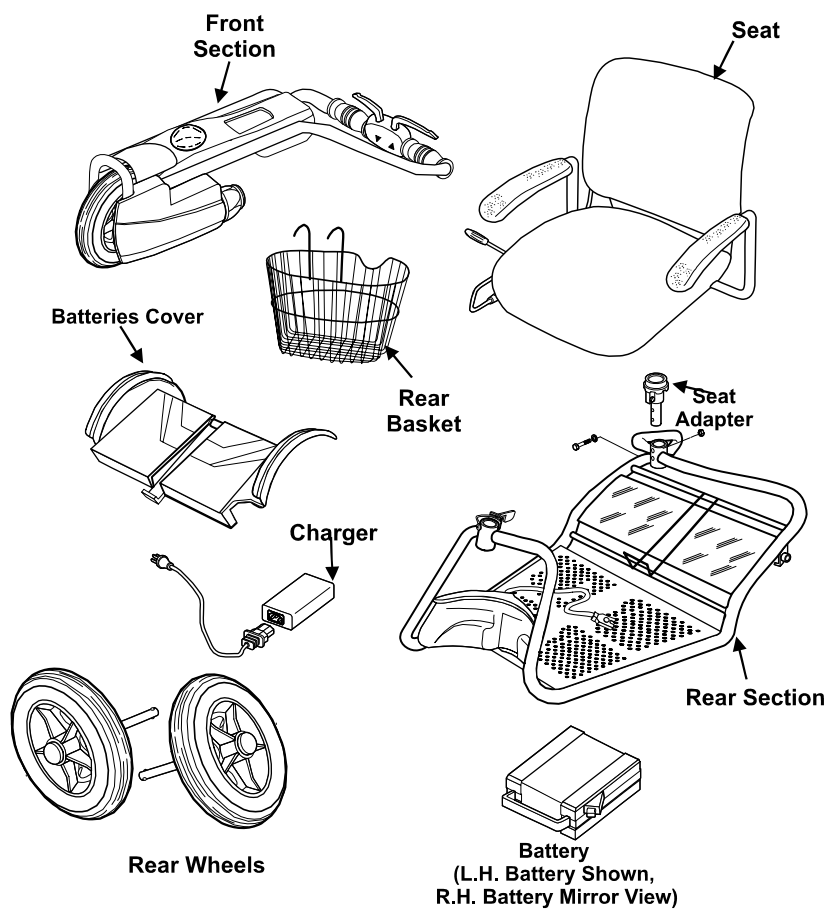

Figure 1.
1.1 Unpack as follows (See Fig. 1)
(See Fig. 1)